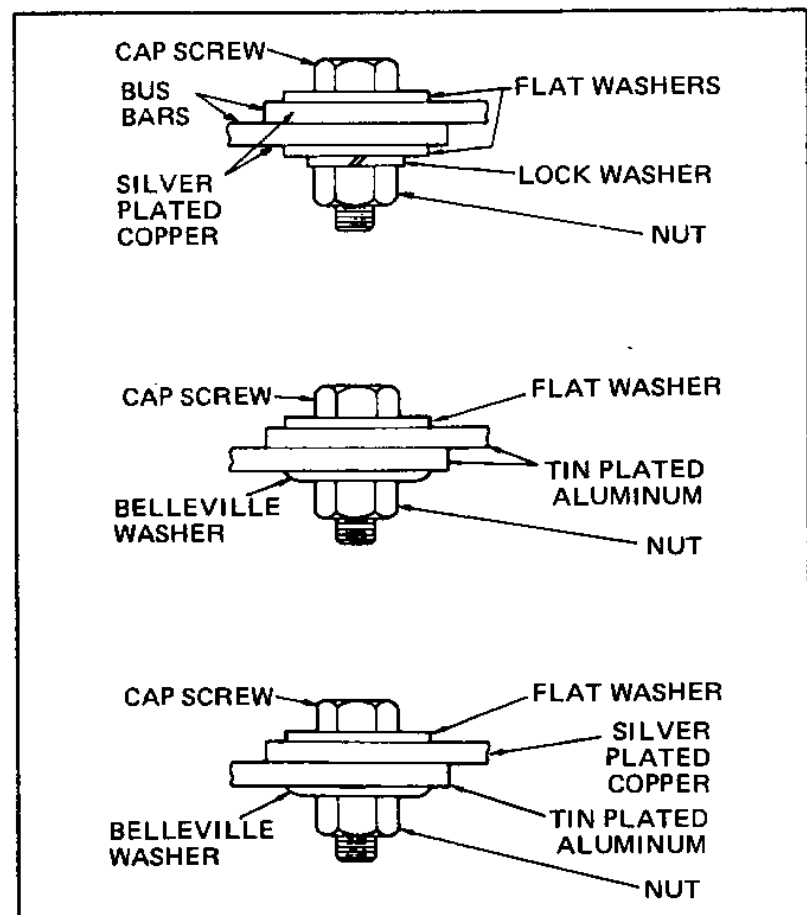

Figure 47. Bus Bar Joint Assembly
2. Assemble all joints as shown in Figure 47.
Notice in Figure 47 heavy washers are used on both sides of the bus bar joint — under the cap
4. The cap screws used in making up bus joints are heat treated, SAE Grade No. 5. Tighten these 1/2" screws to within a torque range of 50-75 ft-lbs. (If special hardware is required by an order, other torque values will be supplied with the field assembly drawings). In most cases, the direction in which the bolt is inserted through the bus joint is important. In the case of 5 kv switchgear, where connector caps are used for insulation, the hardware should be arranged to provide the best clearance to the connector cap. This normally would be with the nuts on the bottom of phase 3 and on the top of phases 2 and 1. On 15 kv switchgear, where insulation boots are used, put the nuts on the side with the deepest boot cavity. This normally would have the screw heads toward the back of the cubicle. Arrange the hardware as shown in Figure 47 with a round washer on each side of the joint and a lockwasher between the round washer and the nut. The only exception to this arrangement occurs when aluminum bus is used. In this case one "Belleville" spring washer replaces the round washer and the lockwasher under the nut with the concave side against the bus joint. When using 2000A and 3000A